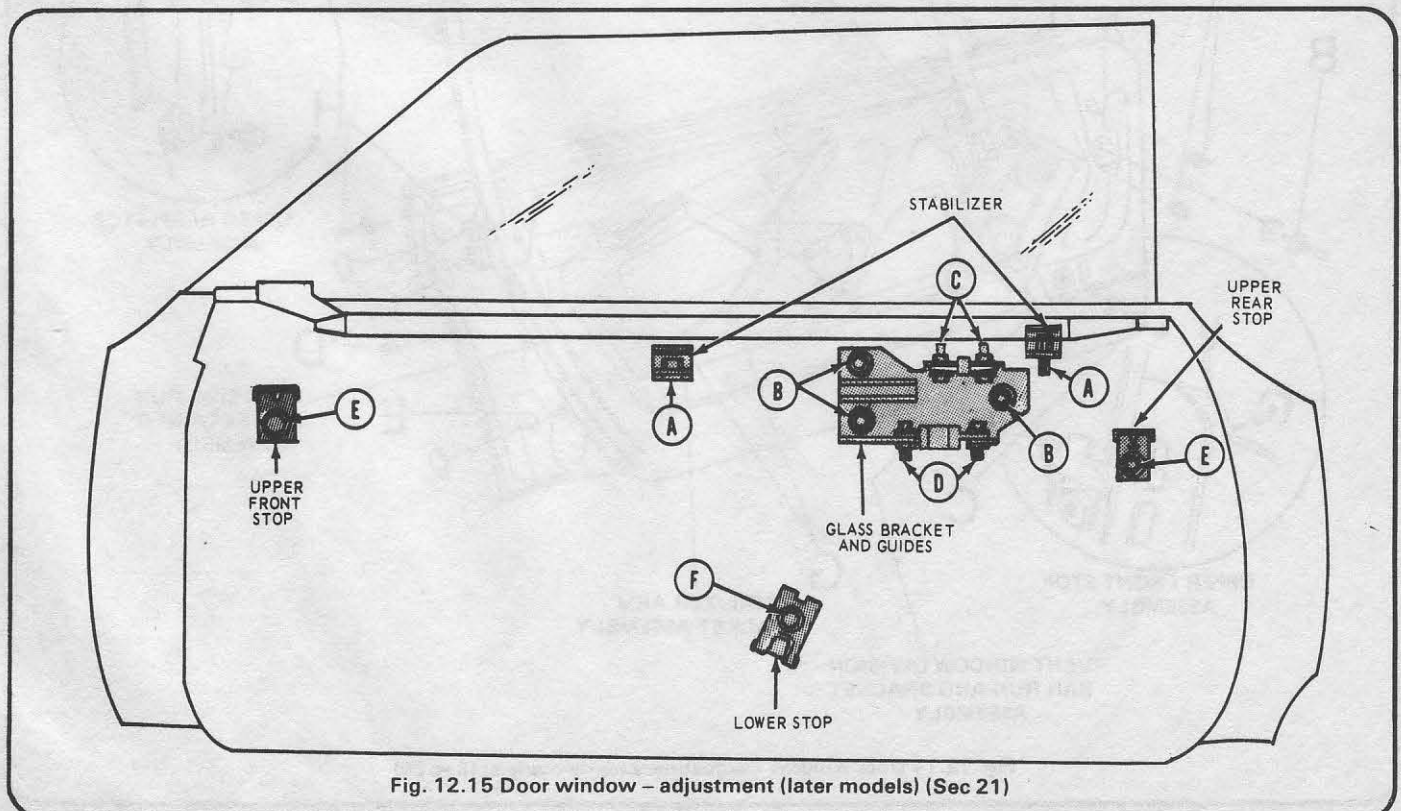

Fig. 12.15 Door window – adjustment (later models) (Sec 21)
- 2 See Fig 12.15 and loosen the screws and nuts, A, B, C, D, E and F.